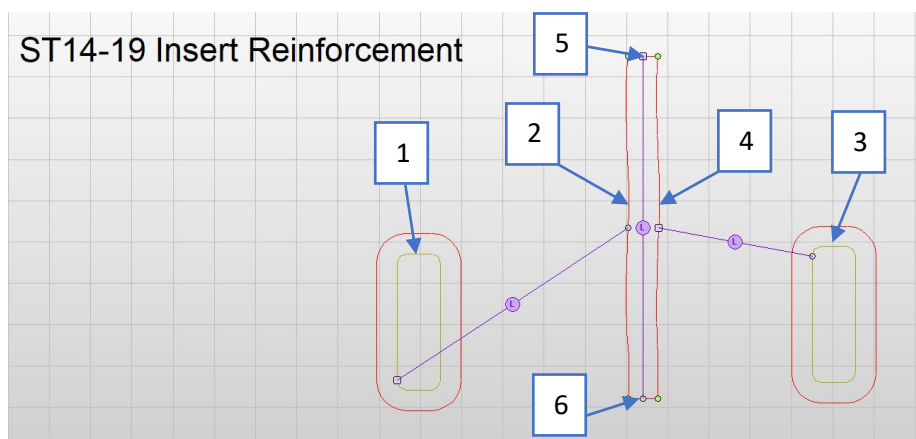

Figure 303
99. Next link all touching segments of our Insert Reinforcement MasterCuts together (Figure 303).